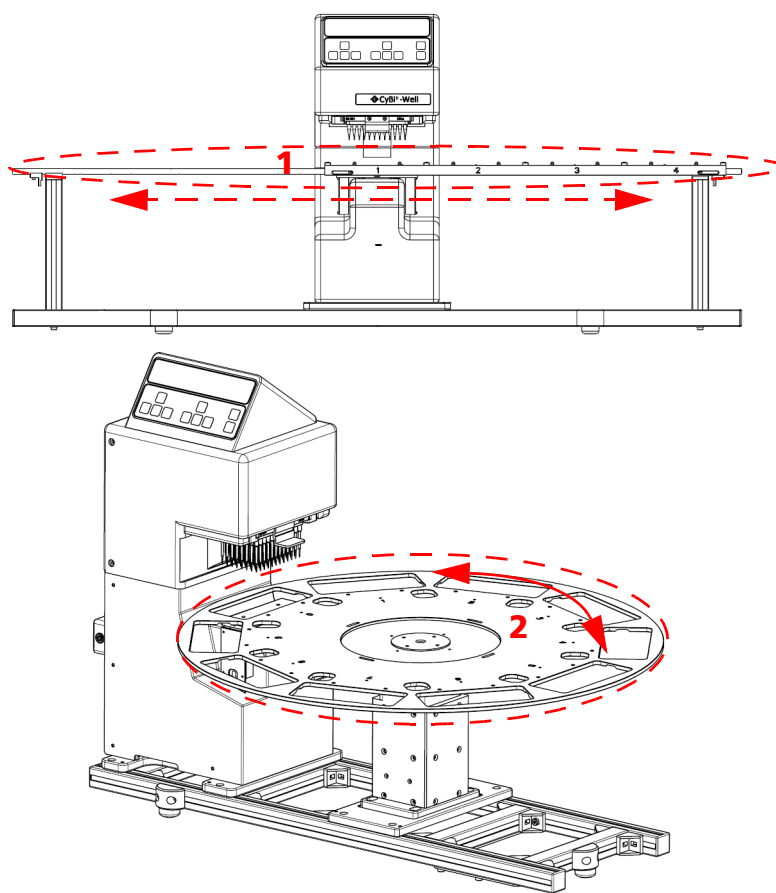

Fig. 3: Hazardous area of transport system
- carriage ore rotary table (→ see fig. 3)